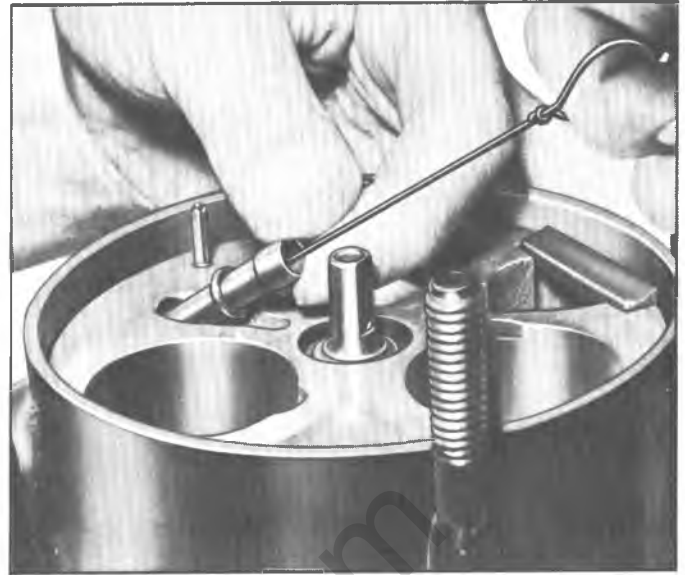

Fig. 16--Removing Oil Inlet Tube and "O" Ring
2. Remove the oil inlet tube and "O" ring with Tool J-5139 as shown in Figure 16.